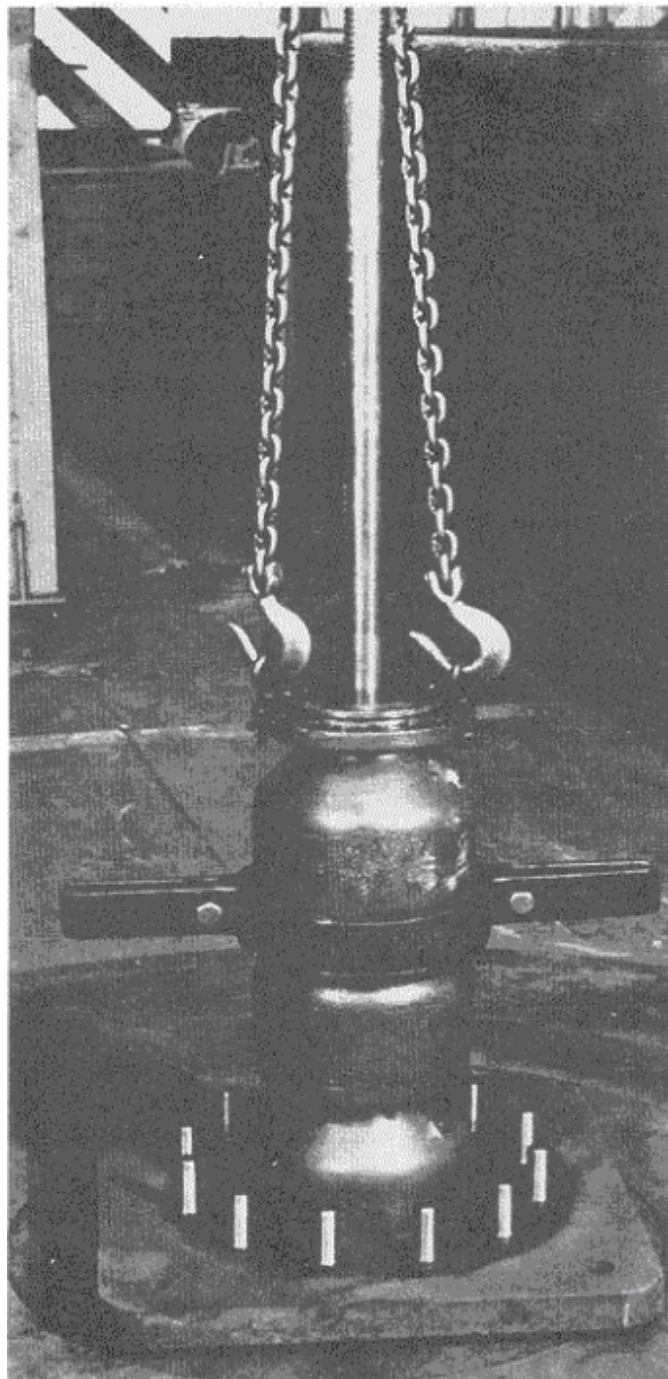

Fig. 5-1. Bowl unit with eyebolts, sling, and elevator clamp attached.
1. If the bowl unit is of the flanged type, place two eyebolts diametrically opposite in the uppermost flange. For a threaded bowl unit, securely fasten an elevator clamp just below the uppermost threaded coupling. Attach a sling to the eyebolts or elevator clamp and pass the looped end of the sling over the hoist hook. (See Fig. 5-1.) While a workman guides the lower end to prevent bumping or dragging, hoist the bowl unit into position over the barrel.
1. Place two eyebolts diametrically opposite in the upper flange of the bowl unit. Attach a sling to the eyebolts, using a suitable hooks or clevises, and pass the looped end of the sling over the hoist hook. (See Fig. 5-1.) While a workman guides the lower end to prevent bumping or dragging, hoist the bowl unit into position